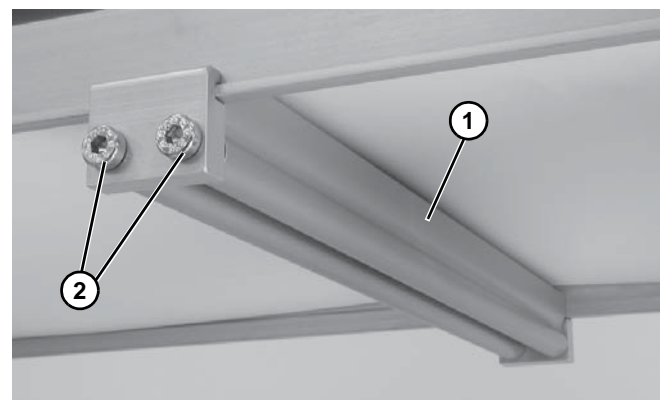

Figure 17
- Install roller assembly as shown (Figure 17, item 1). Tighten screws (Figure 17, item 2) to 60 in-lb (7 Nm).